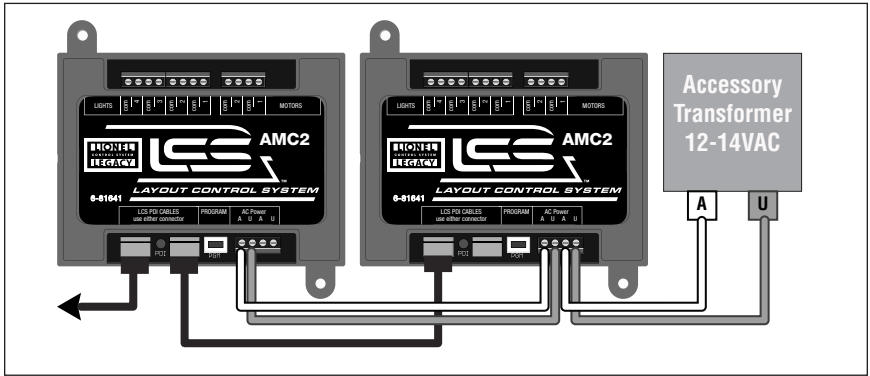

Figure 9. Connecting two AMC2 modules with LCS PDI cables and an accessory transformer
Connect an accessory transformer with an 12-14 VAC output to the AMC2's front screw terminal connections marked "A" and "U" as shown in Figure 9 below. If your installation includes more than one AMC2, they can share the same accessory transformer as long as the combined current draw does not exceed the capacity of the accessory transformer (See Specifications, Electrical at the end of this document).
3. If your layout includes additional AMC2 or BPC2 devices, you can use the spare A and U terminals on the first unit to jumper power to your next AMC2 device as shown in Figure 9.